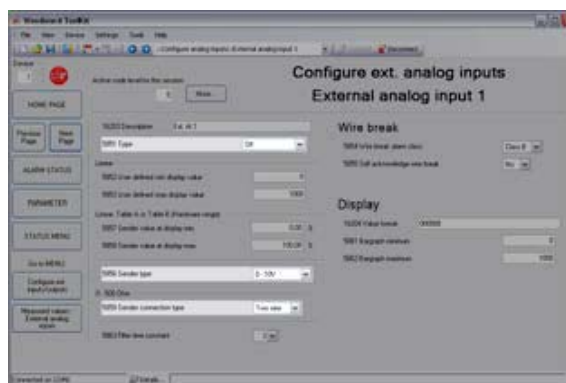

Fig. 239: Setup of external AIs
- ➔ Set up the external analog inputs using the ToolKit screen shown in (Fig. 239).